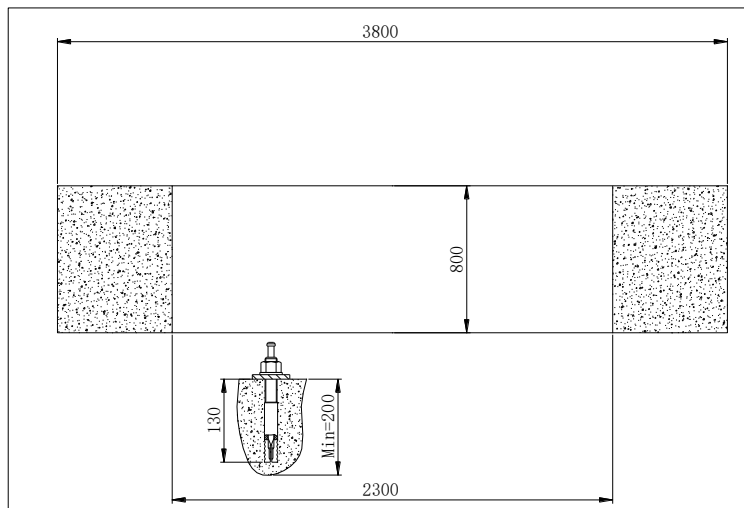
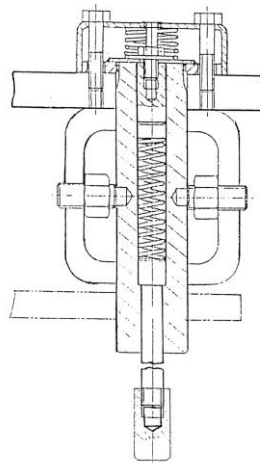

Fig.31
Fig.43
1. Press the up push button, raise the carriages to a height of about 70cm off the ground, then press the lock push button, **SET THE MAIN SWITCH (IG) TO POSITION 0 AND CUT OFF THE POWER SUPPLY TO THE LIFT.**
3. Mount the arms into the carriage supports and inset the dowel pins into the support holes as shown in fig.31 and fig.43. Notice the entrance of driving should be the same as entrance of arms.